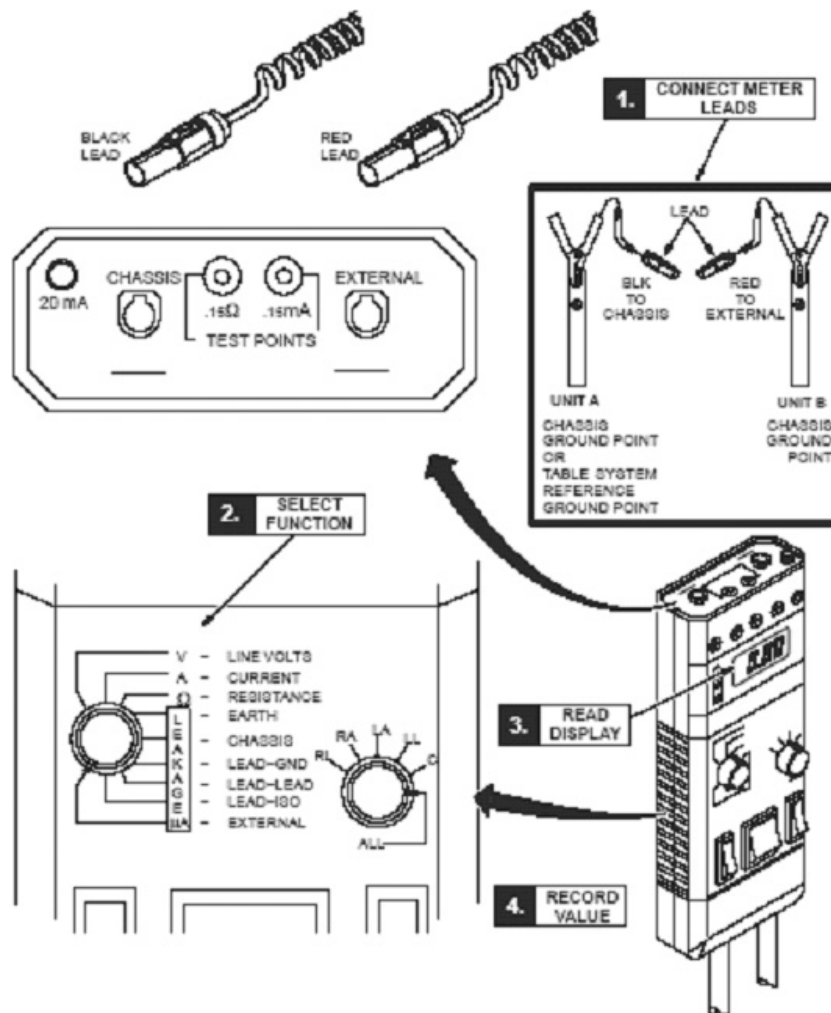

Figure 8-1 Using Dale 600 to Measure Leakage Current
- 3.) Refer to the Dale 601 Operator's Manual for instructions on the use of the Dale 600 meter for measuring leakage current (or refer to Figure 8-1, for a quick overview)